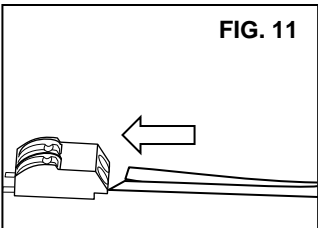

FIG. 11
- From the new LED DRIVER insert the RED (or BLACK) WIRE into the HOT TERMINAL (marked with a "+" on the LED BOARD) and the YELLOW (or WHITE) WIRE into the NEUTRAL TERMINAL (marked with a "-" on the LED BOARD) of the TERMINAL BLOCK. (FIG. 11)